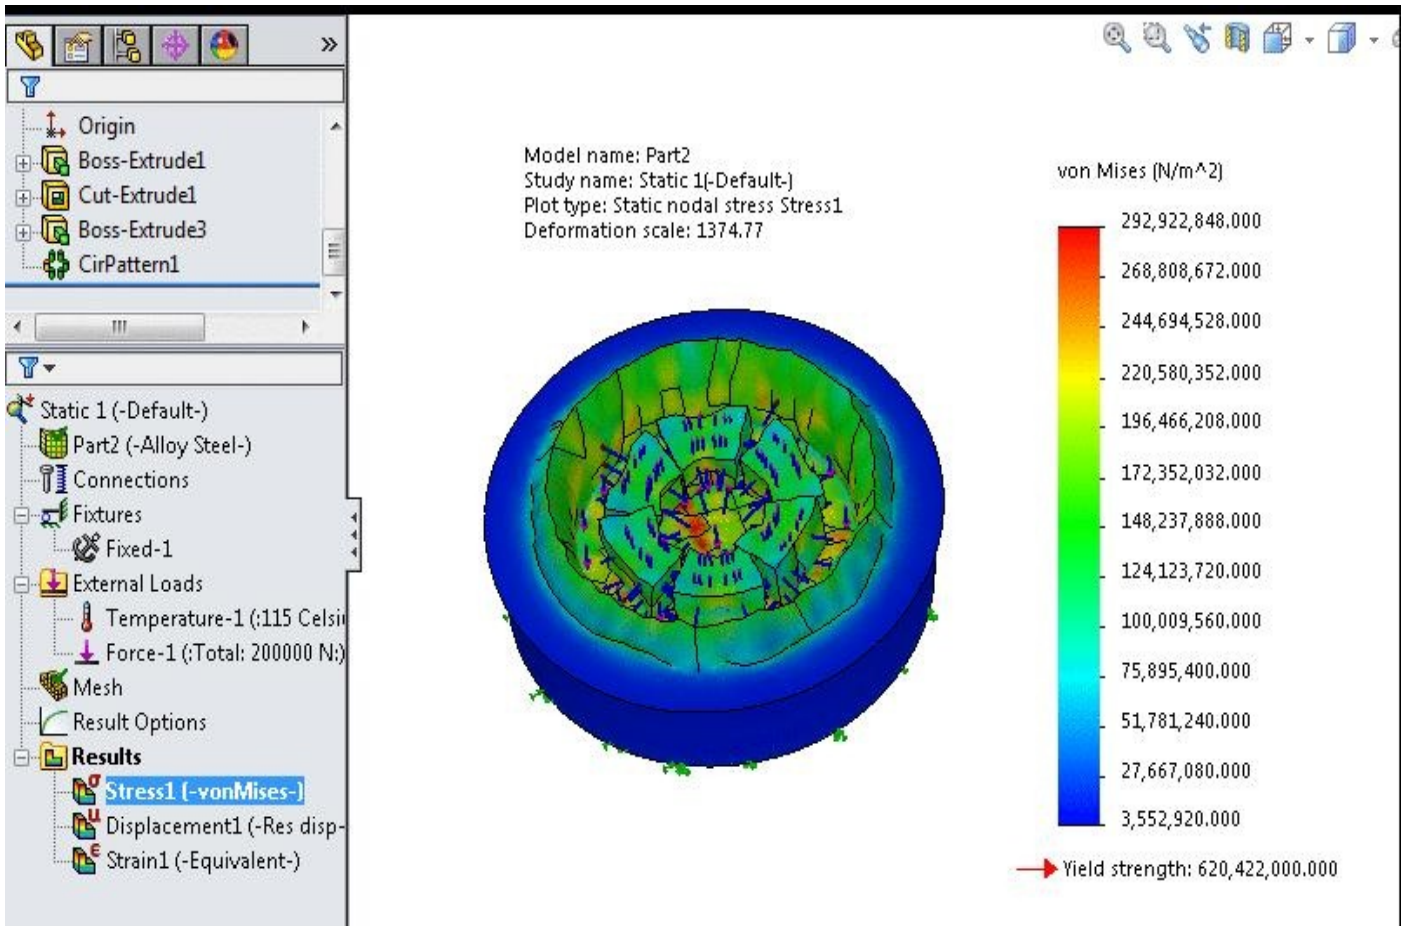

Figure-8. Result of static analysis
- Click on the **Run** button from the **Ribbon**. After the analysis is solved the result will be displayed; refer to Figure-8.